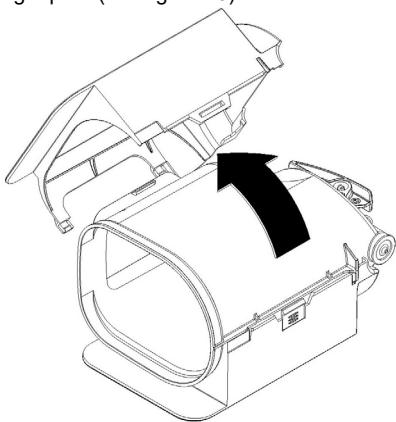

figure 10
- 2** Remove the left part of the cover and then the right part. (see figure 10).